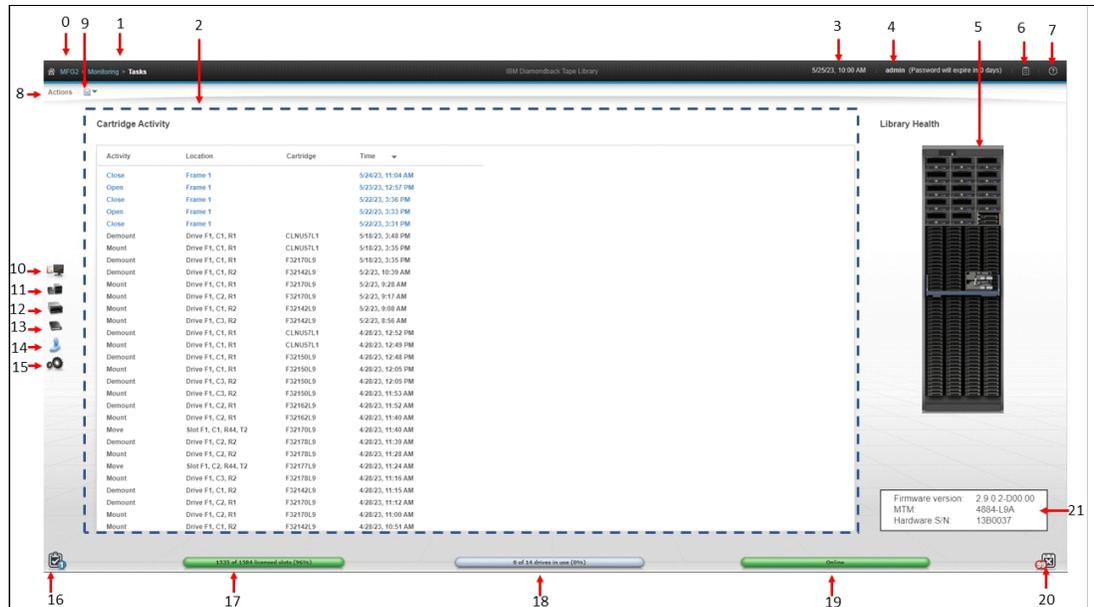

Figure 5-5 System summary panel
After logging into the system, the system summary window is shown. (see: Figure 5-5)
For more information about the Management Interface (MI) and the available functions, use the question mark (?) icon or **Help**, which is number 6 in Figure 5-5 on page 56.
Table 5-1 lists all of the fields that are shown in the window. The numbers in Figure 5-5 on page 56 refer to the numbers that are shown in Table 5-1.